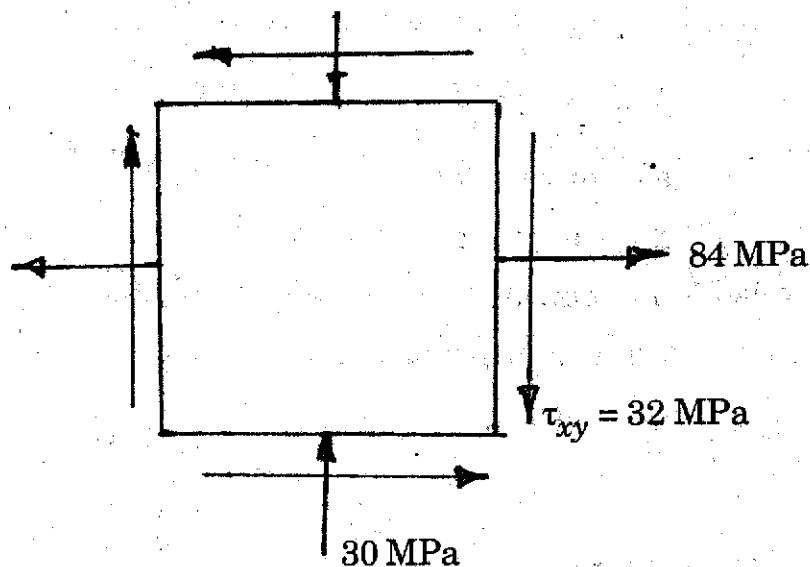

Fig. 8
5. (a) An element in plane stress is subjected to stresses as shown in Fig. 8. Determine principal stresses and show them on sketch of properly oriented element. Determine maximum shear stress and show them on properly oriented element. [8]